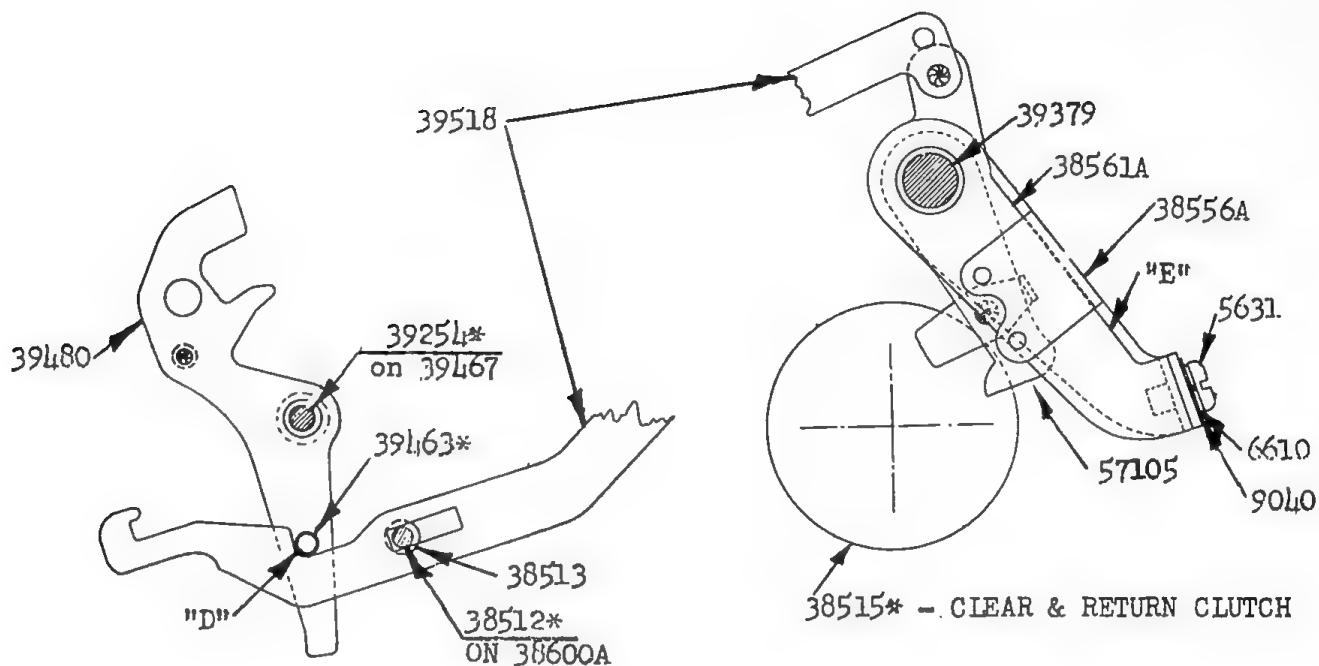

FIG. 2
1. (Fig. 2). The Stud-39463* on the lower portion of Hatchet-39480, also pulls the Master Clutch Control Link-39518 at surface "D" forward, rocking the Master Clutch Control Arm - Left -38556A counter-clockwise. Arm "E" of Master Clutch Arm-38561A, underlies Lever-57105 and rocks 57105 rearward, thus opening the Clear and Return Clutch-38515*, commonly referred to as the "Master Clutch"-38515*.